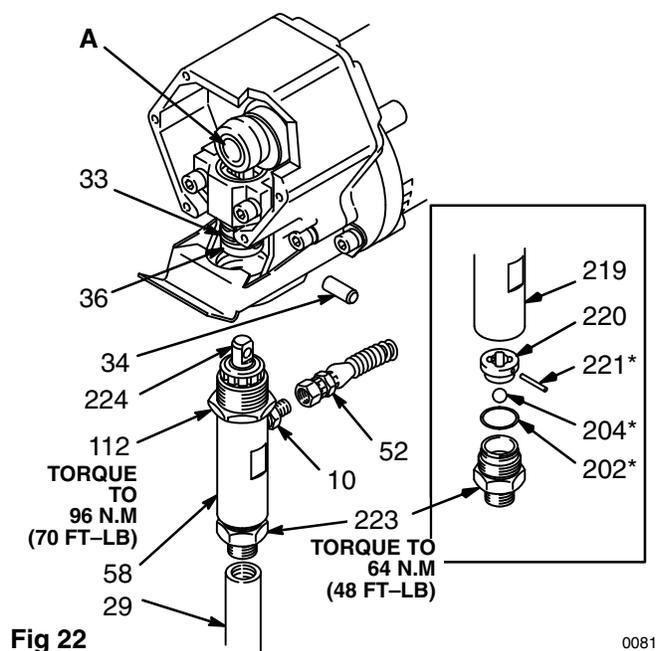

Fig 22
### Removing the Pump. See Fig 22.
### Reinstalling the Pump. See Fig 22.
Be sure the retaining spring (33) is firmly and completely in the groove of the connecting rod to prevent the pin (34) from working loose due to vibration. See Fig 22.
- 1 Remove and disassemble the intake valve (223). If no further service is needed, reassemble the valve, using a new gasket (202\*). Torque to 64 N.m (48 ft-lb). See Fig 22.
- 2 Remove the packing nut (216) and plug (205).
- 3 Tap the piston rod (224) down with a plastic mallet. Pull the rod out of the bottom of the cylinder (219).
- 4 Remove the packings and glands from the throat of the cylinder (219).